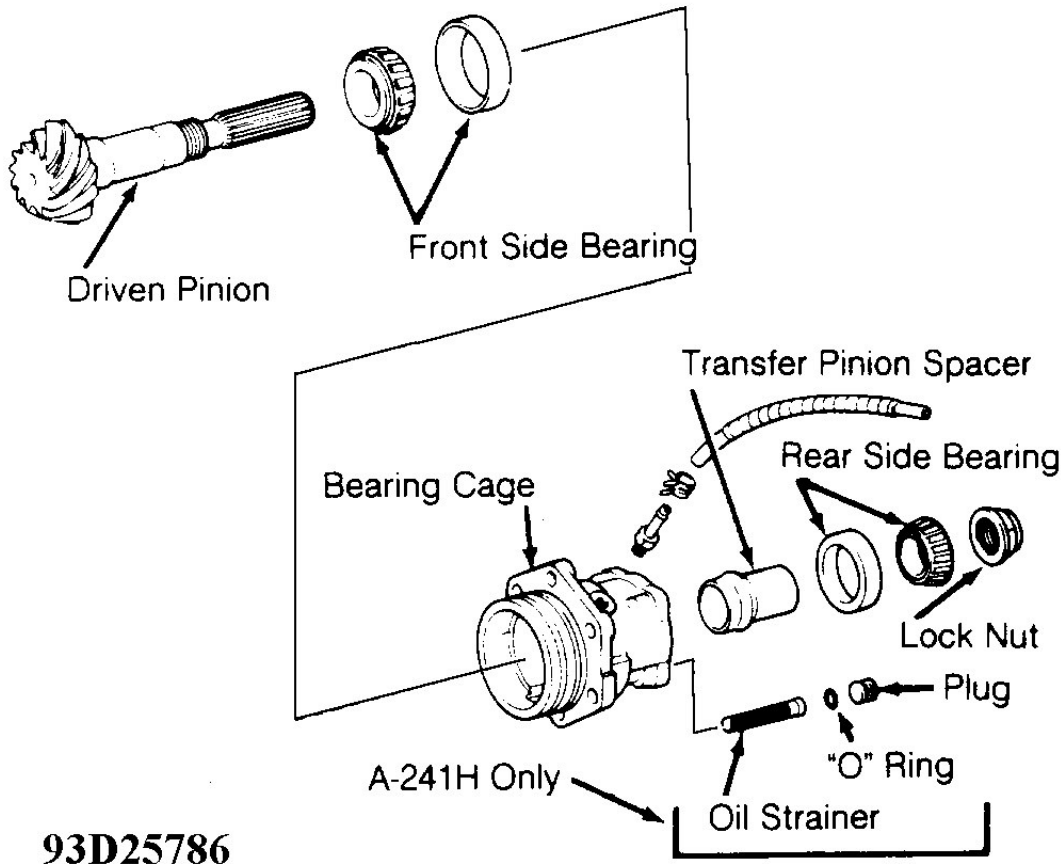

Fig. 47: Exploded View Of Transfer Driven Pinion Bearing Cage (A-241H Shown; A-540H Is Similar)
2. Remove driven pinion, rear side bearing and spacer with arbor press. Using Bearing Remover (09950-00020), remove front side housing. Using brass bar and hammer, remove bearing outer races. See **Fig. 47**.